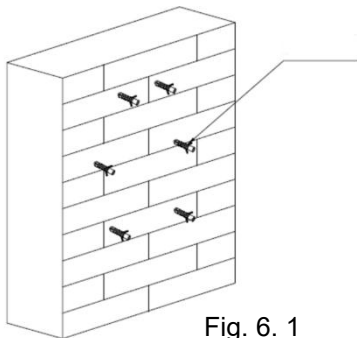

Fig. 6. 1
- Determine where the extractor hood should be positioned and lightly mark where the lower edge of the appliance should be on the wall. Determine where the middle should be based on the hob. (Fig. 6)